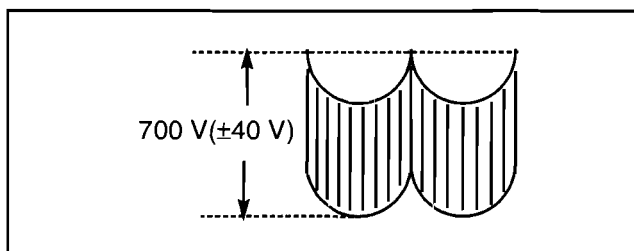

Figure 22. D. Focus Adjustment Waveform
6. Confirm waveform as shown in Figure 22